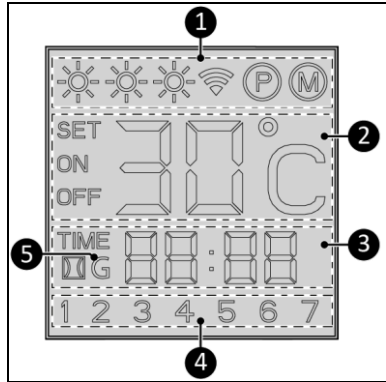

Figure 5
Status indication (Figure 5, pos. 1):
Temperature indication (Figure 5, pos. 2):
Time indication (Figure 5, pos. 3):
- The “G” (Figure 5, pos. 5) indicates that the device is connected to the Wi-Fi thermostat.
Day indication (Figure 5, pos. 4):